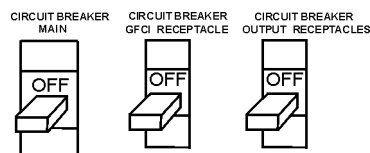

Figure 12. Main, GFCI and Load Circuit Breakers
1. Be sure to disconnect the electrical load and switch the **main**, **load** and **G.F.C.I.** circuit breakers (Figure 12) to the "OFF" position prior to starting the engine.